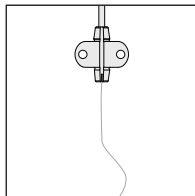

Figure 13
7. Secure the suture sleeve to the skin (suture, tape or staple). Ensure adequate slack in the wire and do not bend probe wire at a sharp angle at the suture sleeve (See Figure 13 and 14).